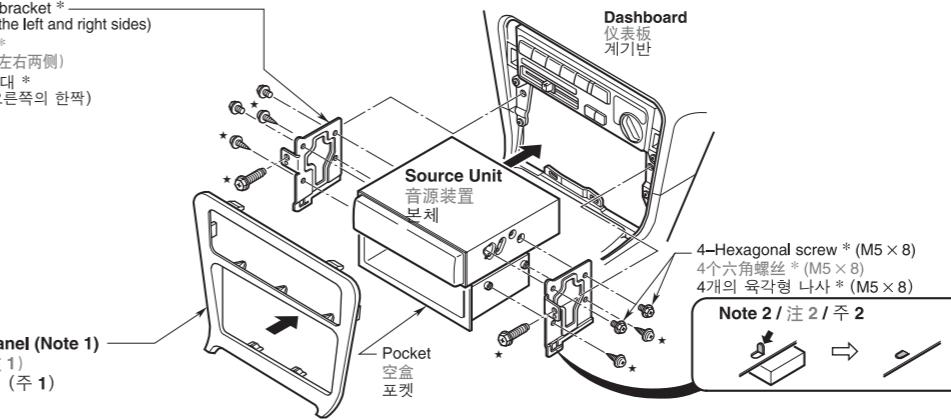

Figure 5 / 図 5 / 그림 5
If the vehicle is equipped with a factory-installed radio, install the source unit with the parts and screws marked (*). (Figure 5)
- Secure the mounting brackets to the chassis as shown in Figure 5. When the source unit is installed without the universal mounting bracket, holes exist; modification, such as drilling new holes, of the mounting brackets may be required for other models.